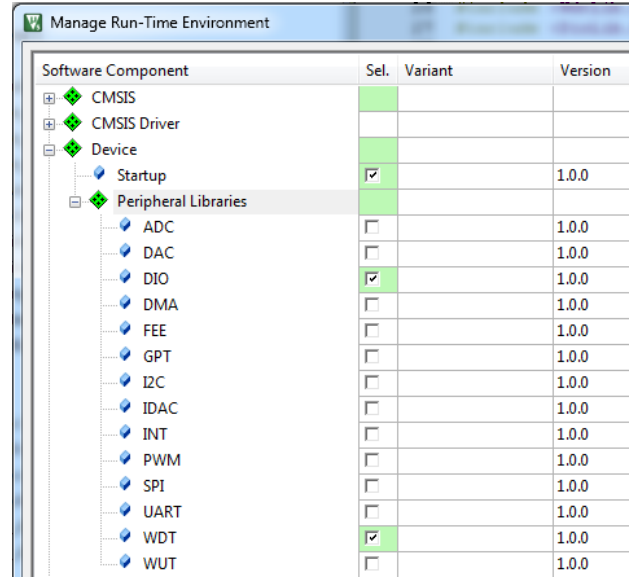

Figure 21. Adding Peripheral Libraries to a Project
- After a debug session is complete, new code can be written and rebuilt. Included in the evaluation kit is an extensive set of library functions. These can be included in a project with the **Manage Run-Time Environment** button. The libraries can be found under the **Device > Peripheral Libraries** category, as shown in Figure 21.